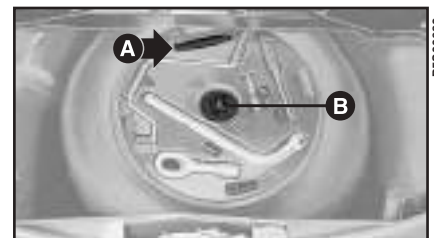

fig. 9
4) Position the support making slot **A**-fig. 9 coincide with the base of the jack.